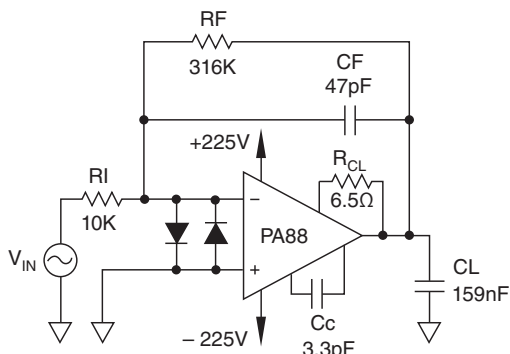
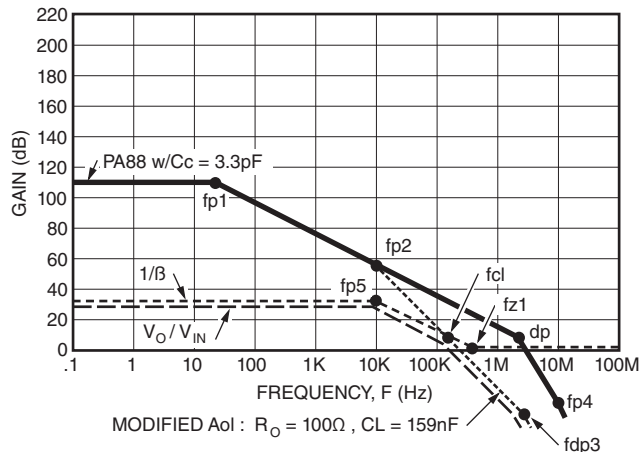

FIGURE 26. FEEDBACK ZERO COMPENSATION FOR CL
FIGURE 27. FEEDBACK ZERO COMPENSATION FOR CL MAGNITUDE PLOT FOR STABILITY
Figure 26 illustrates a circuit utilizing Feedback Zero Compensation for stability when driving a capacitive load. Figure 27 is our magnitude plot to work with for stability. The following procedure will ensure a logical approach to optimize stability:
- STEP 1:** Modify the PA88 Aol due to CL. Here we use the output impedance number for the PA88 of  $R_o = 100$  ohms. The higher frequency poles of the unmodified PA88 Aol must be added into the modified Aol as shown in Figure 26.
fcl such that if the modified Aol plot in the real world moves to the left towards lower frequency we will not be back at a 40 dB per decade rate of closure. Note in Figure 27 that the  $1/\beta$  plot has fp5 and fz1. The feedback network continues to feed back output voltage beyond fcl until we reach 0 dB. Then the  $1/\beta$  plot flattens out at 0 dB. It is important to include fz1 since it will be a pole in our open loop phase check
**STEP 5:** Once you have chosen CF to get the  $f_{p5}$  you want you automatically set  $f_{z1}$ .  $f_{z1}$  can be gotten graphically from the  $1/\beta$  plot. For those of you who want exact breakpoints, here are the formulae for the  $1/\beta$  plot in Figure 27.